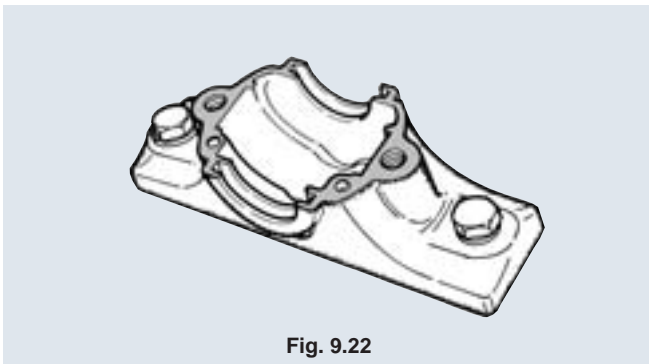

Fig. 9.22
- (1) Temporarily install the lower plummer block housing to the frame. (See **Fig. 9.22.**)